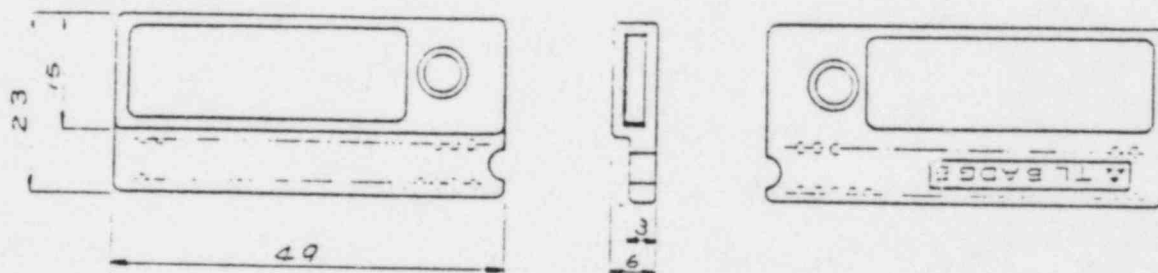

Fig. 1 Appearance of TL Badge: UD-802AQ
4. Appearance : Fig. 1
9. Label : The labels shown in Fig. 1 are stucked.